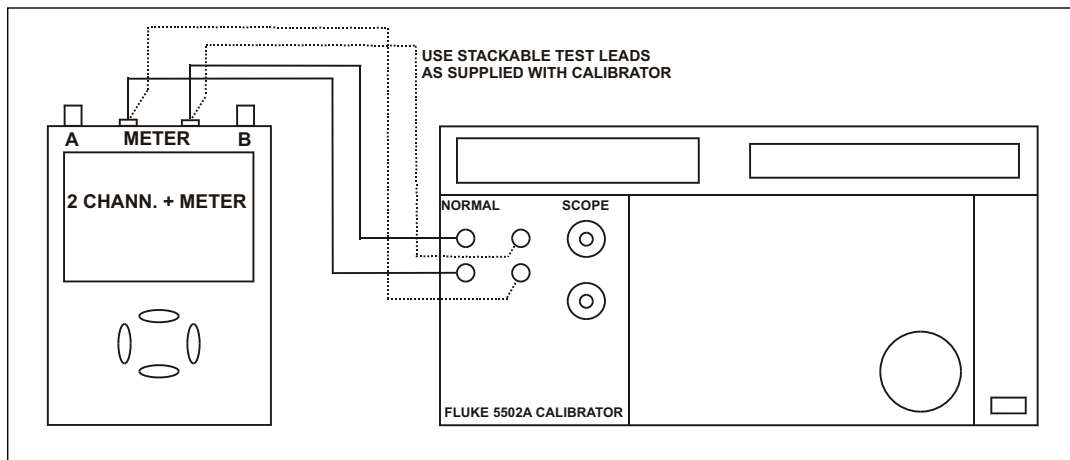

Figure 4-14. Test Meter Tool Input to 5502A Normal Output 4-Wire
1. Connect the Test Tool to the 5502A as shown in Figure 4-14.